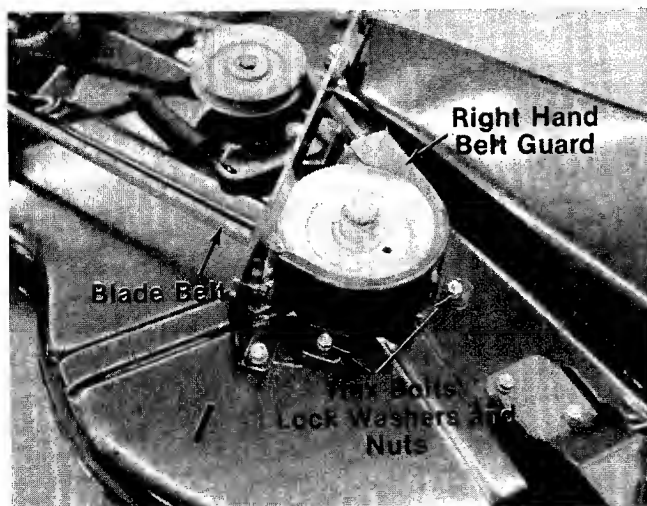

FIGURE 35.
3. Remove the right hand belt guard from deck. Remove two hex bolts, lock washers and hex nuts. See figure 35.